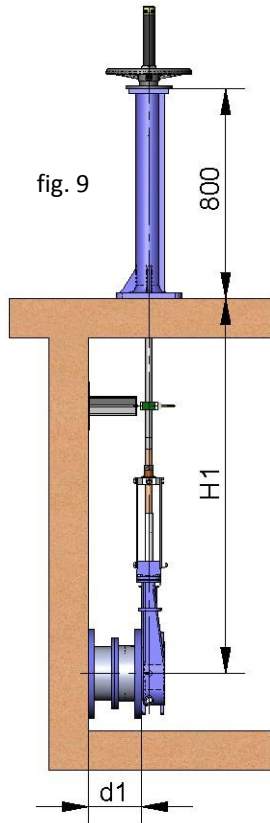

fig. 9
- The standard floor stand is 800 mm high (fig. 9). Other floor stand measurements available to order.